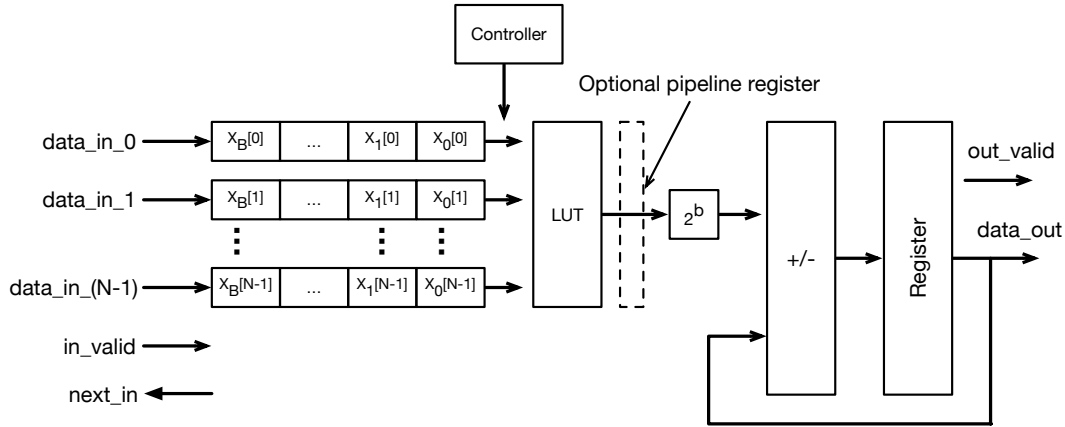
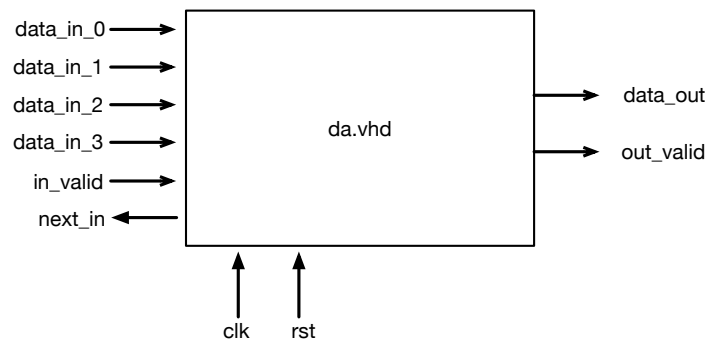

Figure 1: Data flow of a signed DA system
Figure 2: Input, output ports of the design
The data flow (Architecture) of DA looks like Figure 1, and the input, output ports are shown in Figure 2.
- Note that Figure 1 may be incomplete. It is up to your design whether and where to add additional pipeline registers (Depending on the design, there may be a 1-cycle difference with the reference files).